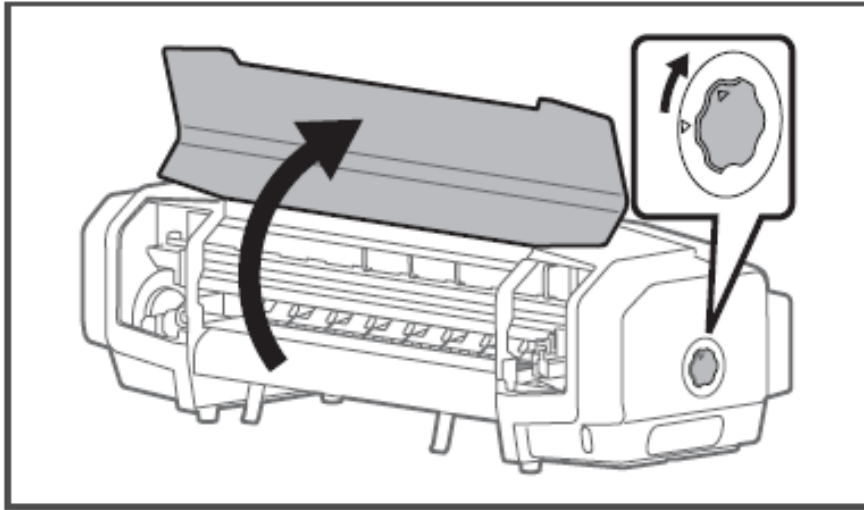

Figure 13
15. Open the front cover and turn the media fixing knob to release the fixing mechanism. See Figure 13.